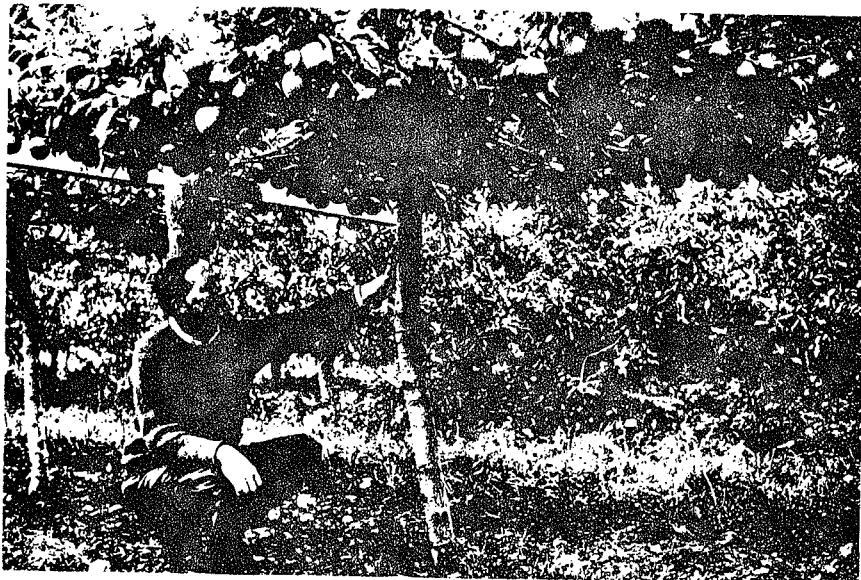

FIGURE 15: GRANNY SMITH APPLES AT HARVEST TIME SHOWING UNIFORMITY OF SIZE.
- \* A single pick harvest is possible. All fruit grows under identical conditions so that it sizes and matures uniformly (Figure 15).